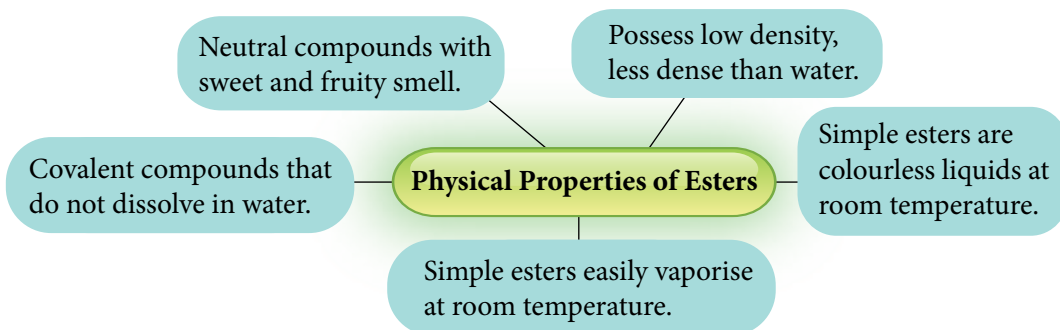

Figure 2.17 Physical properties of ester
- Figure 2.17 shows a bubble map of physical properties of ester.